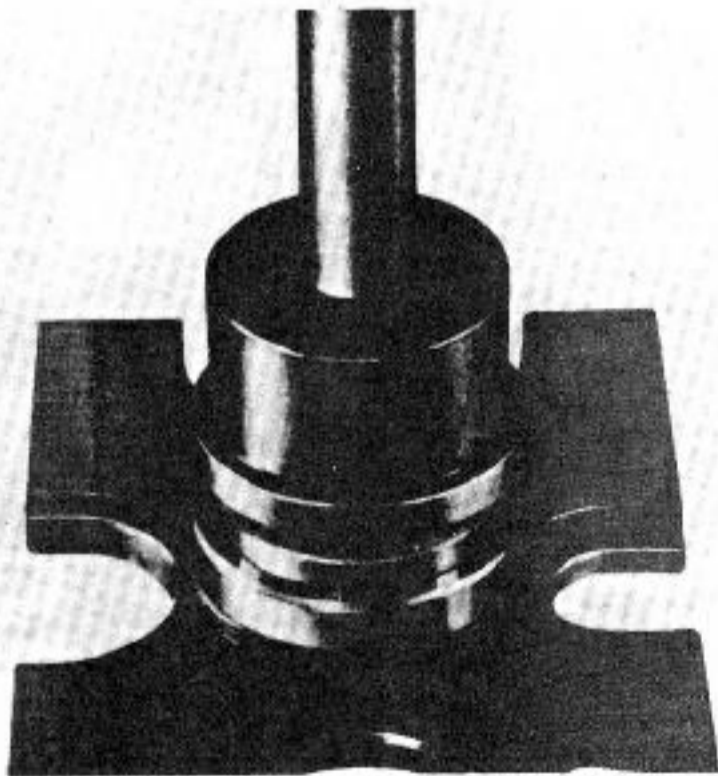

Fig. 11-15. Pressing tapered-roller bearing outer race into the pinion adjusting ring.
5. Heat the pinion adjusting ring to 100°C (212°F) and install the tapered-roller bearing outer race in it. When the adjusting ring has cooled, seat the bearing race completely under 3 tons (2721 kg) of pressure (see Fig. 11-15).